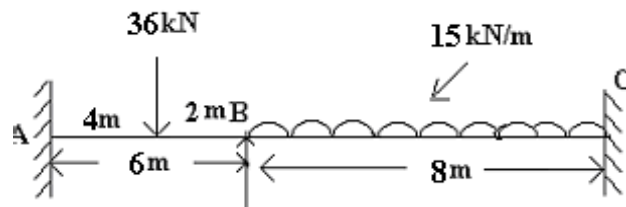

Figure 2:
6. During loading the support B of the continuous beam ABC shown in Figure 2 sinks by 10mm. Using moment distribution method find out the support moments, sketch the B.M. and S.F. diagrams. $E = 200 \text{ GN/m}^2$ and $I = 100 \times 10^{-6} \text{ m}^4$. [16]